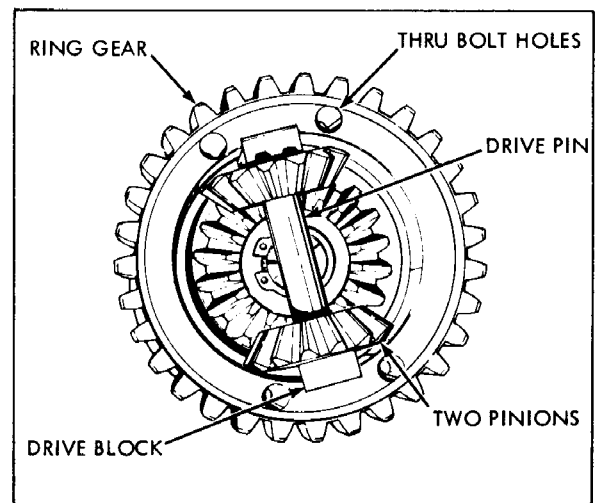

Figure 3-4
1. Remove the four hex head bolts and the upper axle and differential carrier. Remove the drive blocks, pinions, drive pin and thrust spacer if used, by lifting out of the ring gear. Tap the ring gear lightly with a mallet to loosen from the differential carrier. (Figure 3-4)